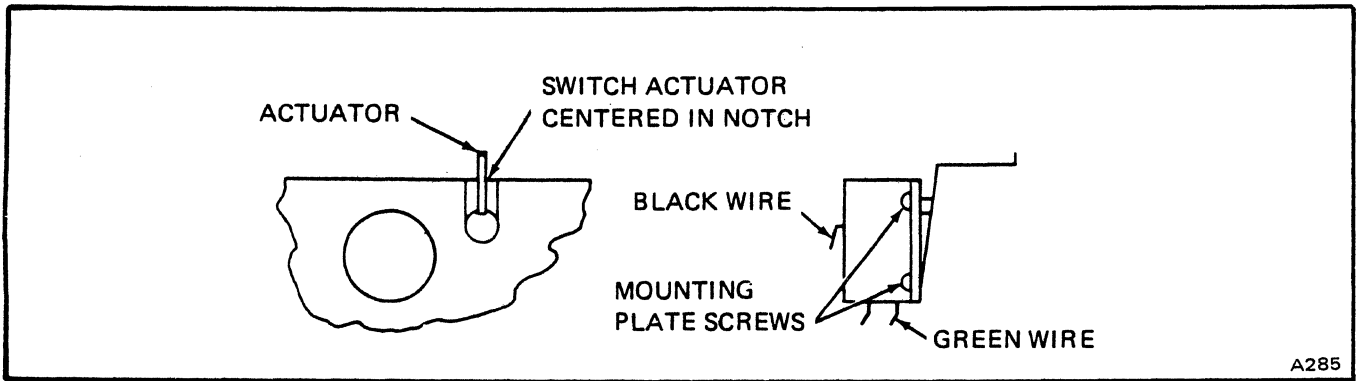

Figure 4-39. Hopper Empty Switch Adjustment
- a. Check that arm of switch is parallel to top of pick support casting (Figure 4-39).